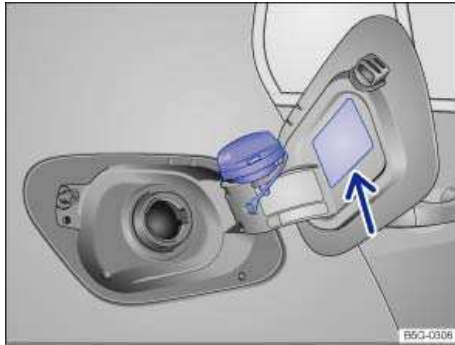

Fig. 151 Right rear side of vehicle: Fuel cap placed on the open fuel filler flap.
- Unscrew the fuel cap counterclockwise and remove. Use the slot on the fuel filler flap hinge ⇒ fig. 151 to hold the cap while refueling.
⇒ fig. 151.